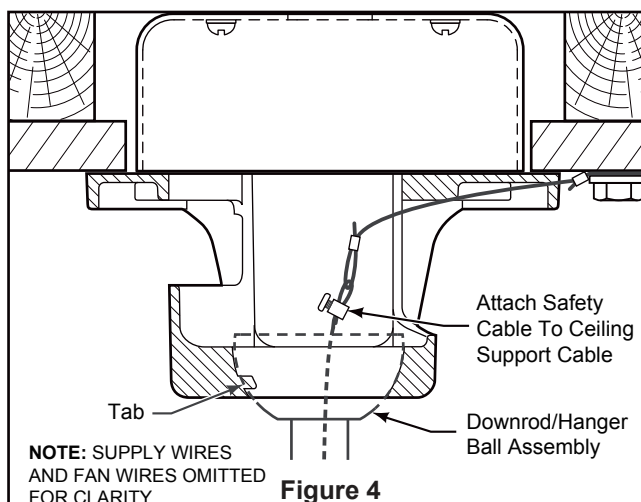

Figure 4
4. Slide downrod into the downrod support on top of the motor. Install the clevis pin by aligning the holes in the downrod support with holes in the downrod. Secure clevis pin with hairpin clip. Tighten the two set screws with nuts in the downrod support. (Figure 4)
- ☐ 4. Carefully lift the fan and seat the downrod/hanger ball assembly onto the hanger bracket that was just attached to the outlet box. Be sure the groove in the ball is lined up with tab on the hanger bracket. (Figure 4)
- ☐ 5. Attach the safety cable to ceiling support cable. Slide cable clamp and washer onto safety cable (from fan). Place the end of cable through the loop of ceiling support cable. Pull as much cable through loop as possible. Feed end of cable into clamp hole and firmly tighten screw. (Figure 4)
- ☐ **3.** Connect wires using connectors as shown in Figure 4.